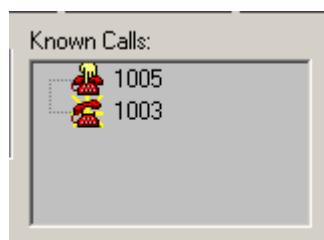

Figure 38: CTI: Extension 1005 Sending Calls to SAP Agent 1003
3. Make a call from an external source (either another configured SAP agent or a physical phoneset) to the queue in the **CIC0** transaction that you have the SAP agent logged on to. Figure 38 shows the state of the current calls.